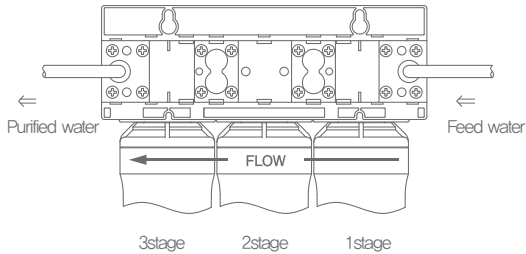

Figure 1. Water flow map
- For water service systems that are different from Figure 1, contact A/S center to ask help for installation.
- Make sure to refer to Figure 1. working drawing on 5p.